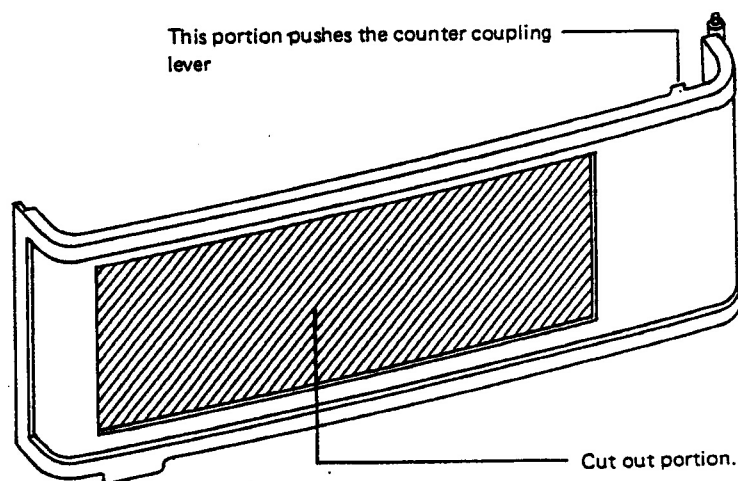

Fig. 68
### (1) The Modified Back Cover. (fig. 68)
### (4) AUTOMATIC EXPOSURE ADJUSTMENT. (IMPORTANT – See Fig. 68.)